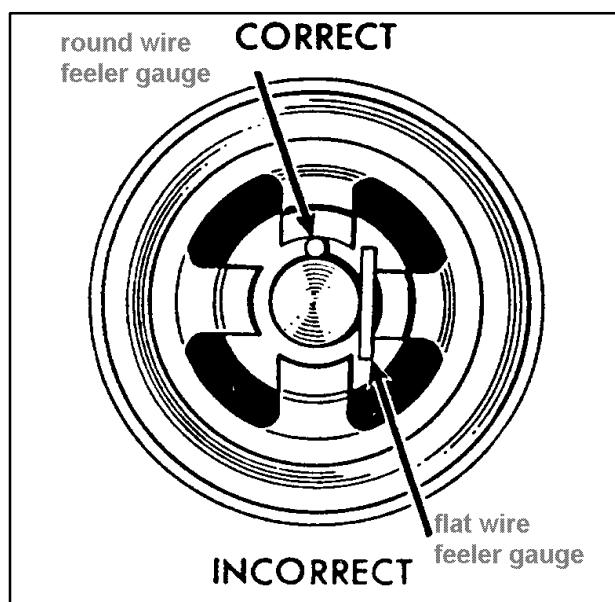

FIGURE 8-5. Method of checking spark plug gap.
(2) Check the plug for the proper gap setting, using a round wire feeler gauge as shown in figure 8-5. In the case of used plugs, procedures for cleaning and regapping are usually contained in the various manufacturers' manuals.